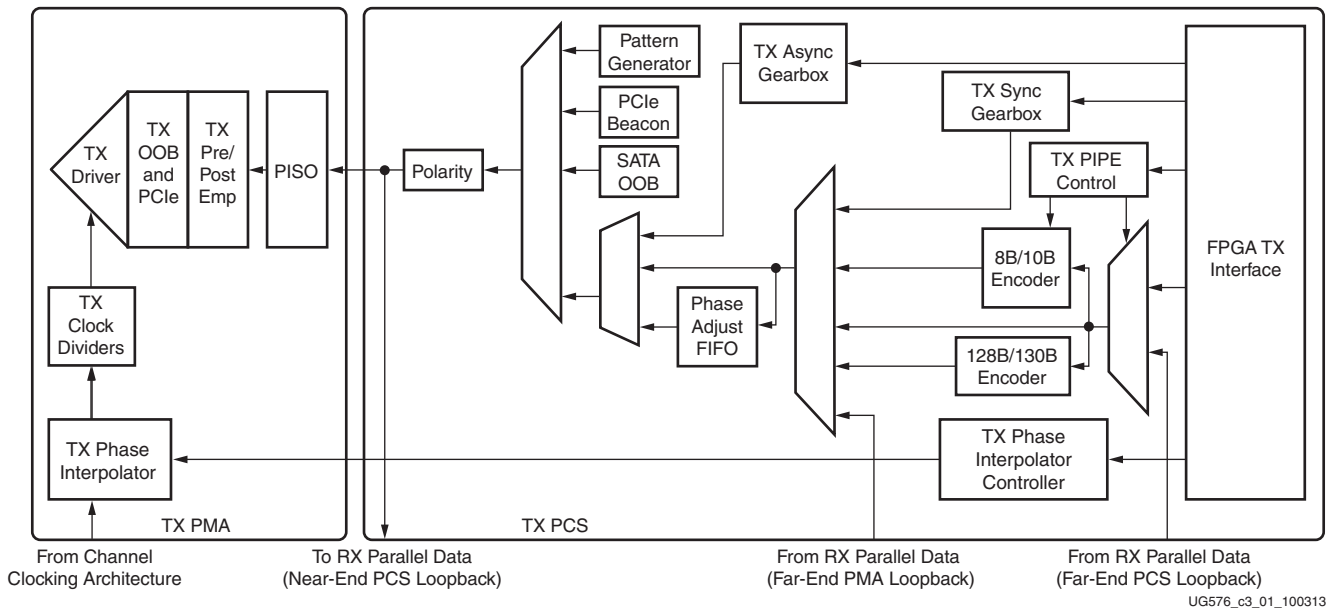

Figure 3-1: GTH Transceiver TX Block Diagram
This chapter shows how to configure and use each of the functional blocks inside the transmitter (TX). Each transceiver includes an independent transmitter, which consists of a PCS and a PMA. Figure 3-1 shows the functional blocks of the transmitter. Parallel data flows from the FPGA logic into the FPGA TX interface, through the PCS and PMA, and then out the TX driver as high-speed serial data.